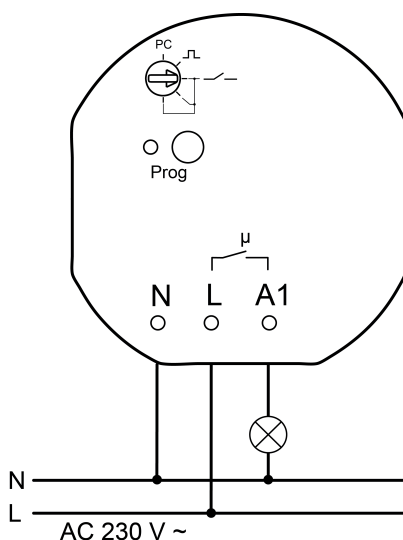
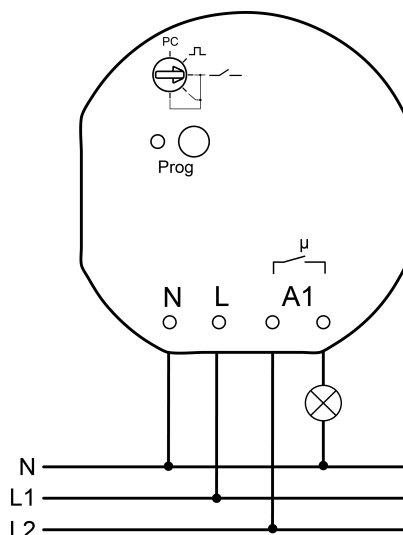

Figure 3: Connection example radio switching/push-button actuator
Figure 4: Connection example radio switching/push-button actuator potential-free
- Connect load as shown in the connection example (figure 3) or (figure 4).